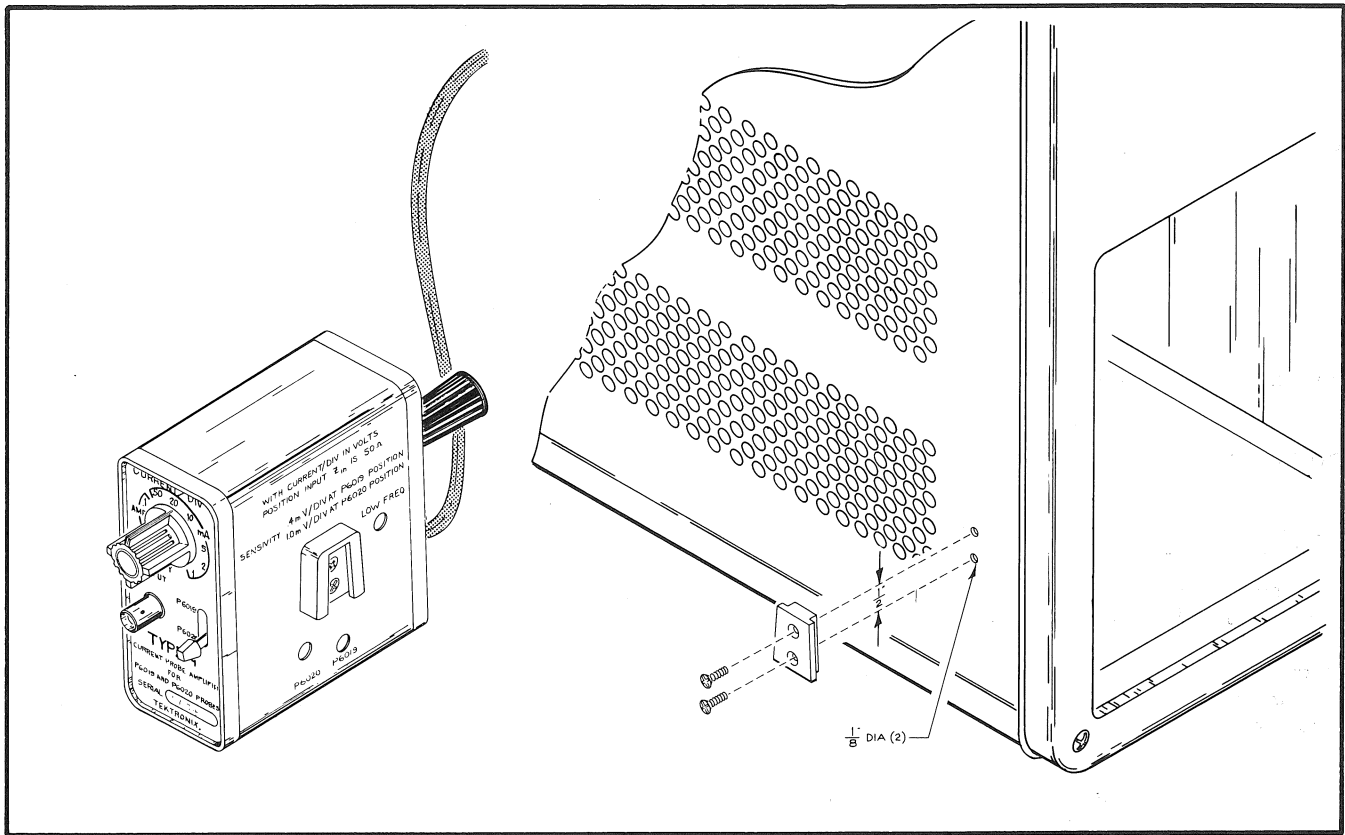

Fig. 5-1. Hanger installation.
1. Using the screws supplied with the hanger, fasten the large portion of the hanger to the right side of the Type 134 (see Fig. 5-1).